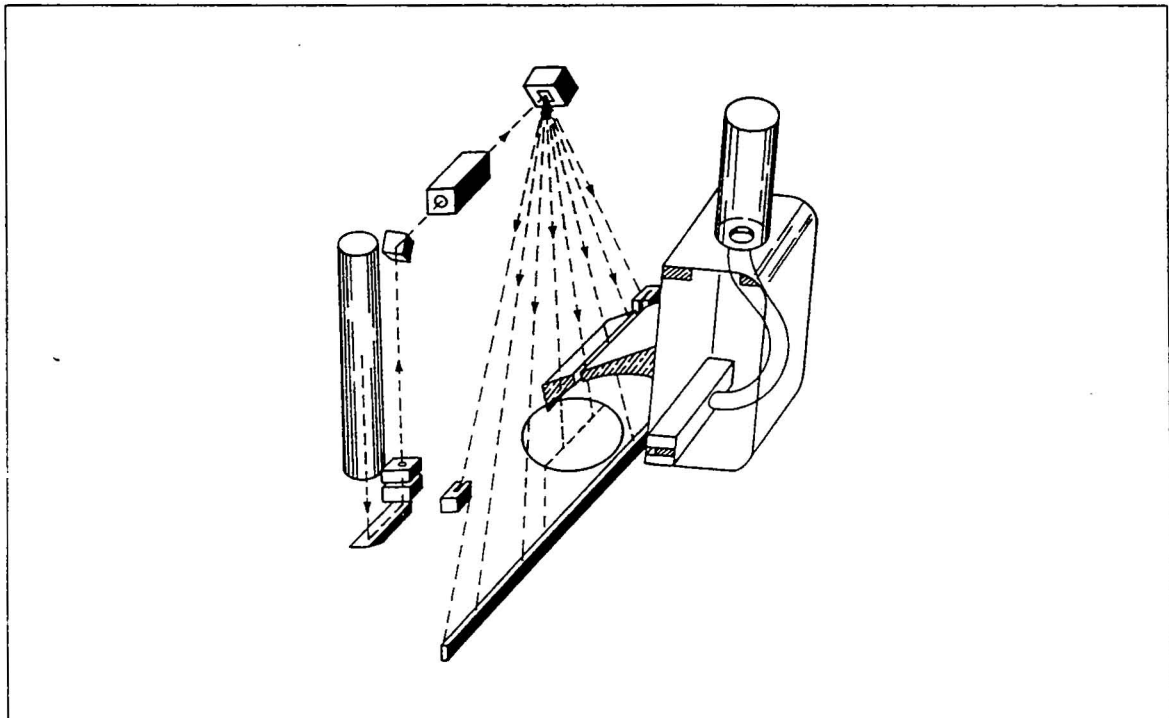

Fig. 7-2 Pictorial View of Scanning & Collection System
This particularly true with the turret mirror (M) at the top left corner of the optics plate. Reference Fig. 7-2 below for location details.